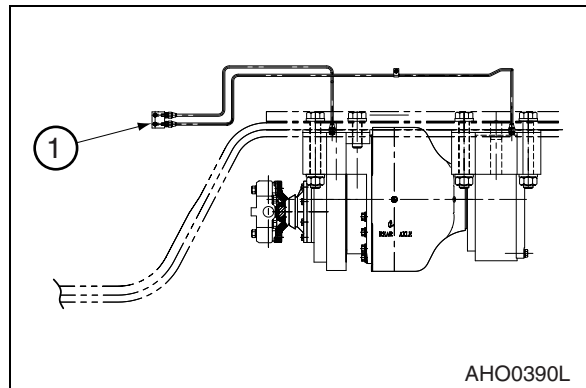

Figure 38
- F: Rear Axle pivot (1, Figure 38), 2 locations on each side of machine. Use remote grease fittings mounted on frame shown in Figure 38.